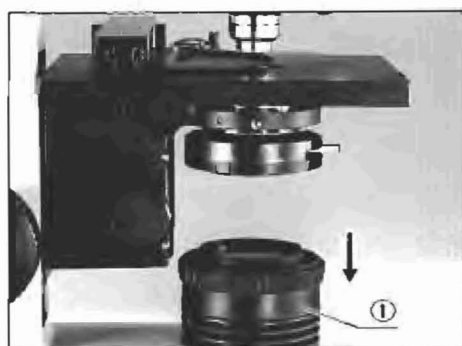

Fig. 10
- 1) Aligning the positioning clips of the iris diaphragm frame to the cut-outs in the filter mount (1) on the base, insert the iris diaphragm until it clicks in position. (Fig. 10)